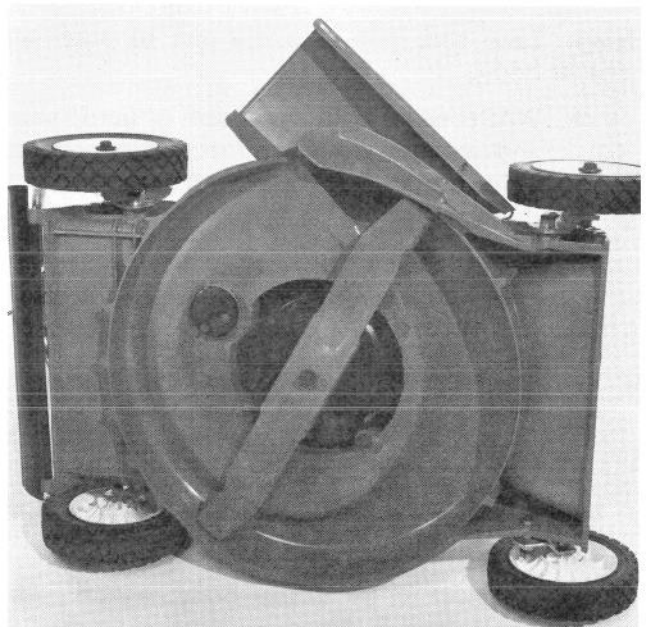

Figure 25
3. Tip mower on its left side (Fig. 25).